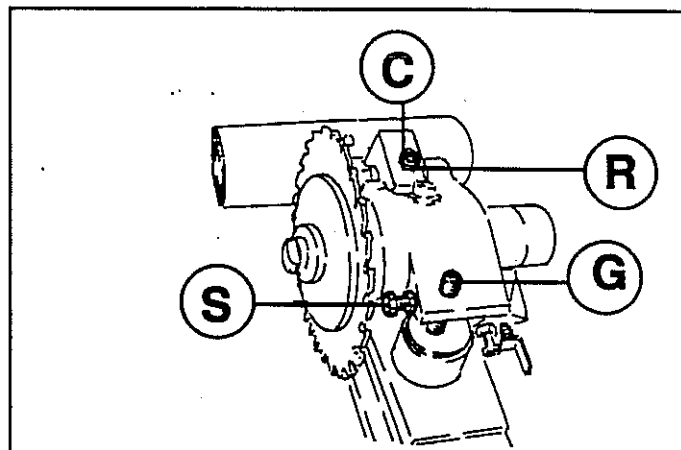
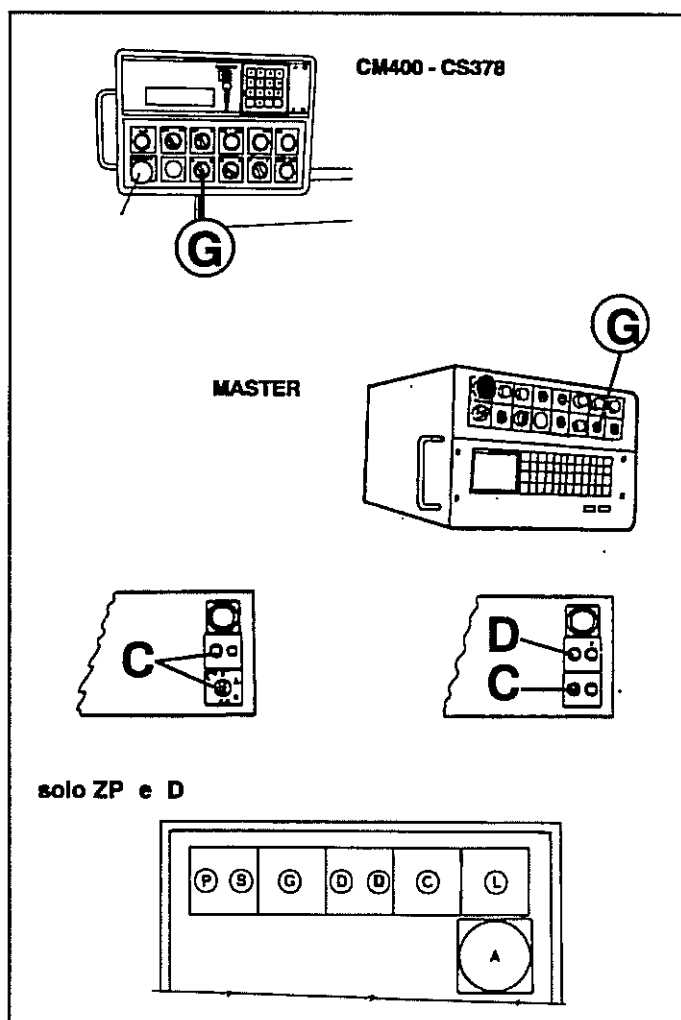

Fig.3.13
Fig.3.14
- 1- Loosen nut (C fig.3.13)
- 2- Screw down the set screw (R)
- 3- Tighten nut (C)
- 5- Turn selector (G) for lowering the blade
- 6- Press reset buttons (D fig.3.14)
- 7- Turn motor start switch (C)